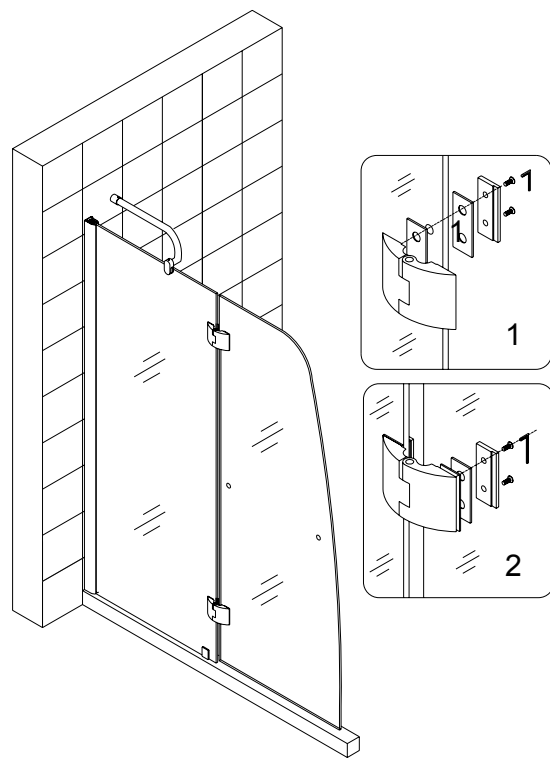

Fig 6
6. Install the **Hinges (04)** on the stationary glass with the decorative non-screw side facing outwards. Hook the **Glass door (05)** from the inside. You will need assistance in this process. Start off by attaching the hinges to the stationary glass. Place the hinge from the outside and screw it in from the inside, do this for the bottom hinge and the top hinge, but start first from the top hinge when you begin to hang the door on. Make sure that until both hinges are installed securely, the door does not swing around or lean/bend to any side because this can cause the hinge to snap and breakage of the glass. After the hinges are installed open and close the door to make sure it's operation is nice and smooth. Perform necessary adjustment to have the top edge of the door aligned with the stationary glass. See Fig.6 for details.